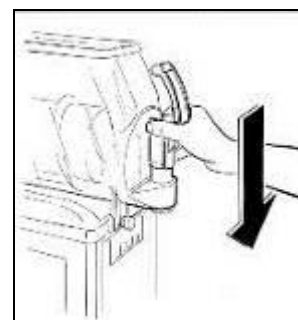

Fig. 17
- **R**e-insert the tap (fig.17) spreading Vaseline on the o-rings to facilitate sliding the tap in its seat until completely inserted.